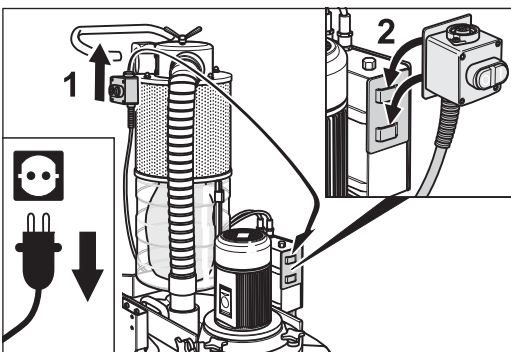

Fig. 88 Hook the ON/OFF switch into the transport holder on motor switch box.
- 5 Remove the ON/OFF switch from the chassis (fig. 88, 1) and hook it into the transport holder on motor switch box (fig. 88, 2).